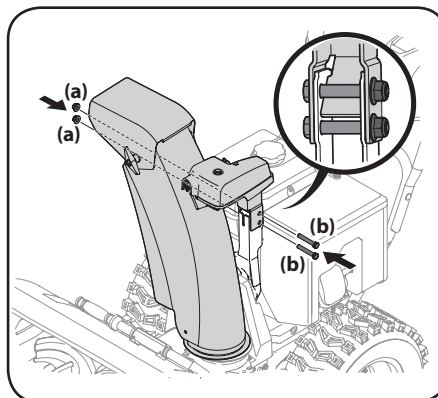

Figure 2-37
2. Place chute assembly onto chute base and chute control assembly onto chute support bracket. See Figure 2-37.
3. Secure chute control assembly to chute support bracket with lock nuts (a) and hex screws (b) removed in Step 1. See Figure 2-37.